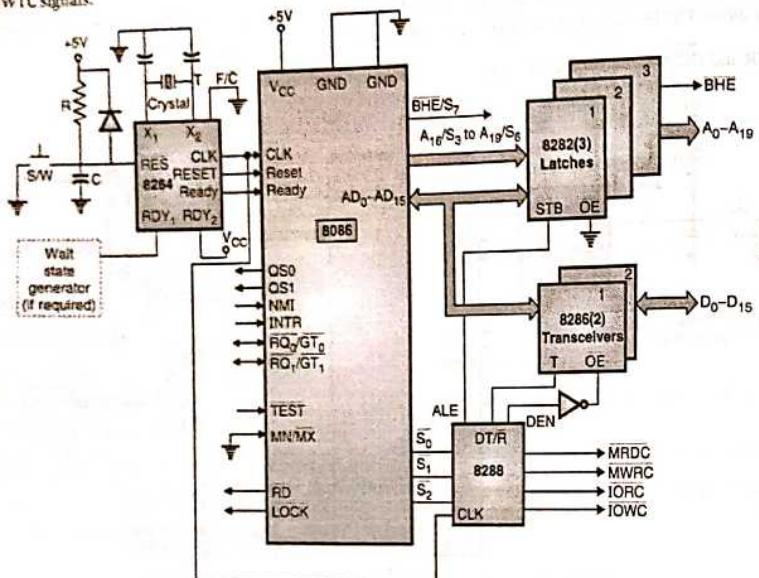

Fig. 3.10.1 : Block diagram of maximum mode minimum system
- Fig. 3.10.1 shows the block diagram of the 8086 system in maximum mode.